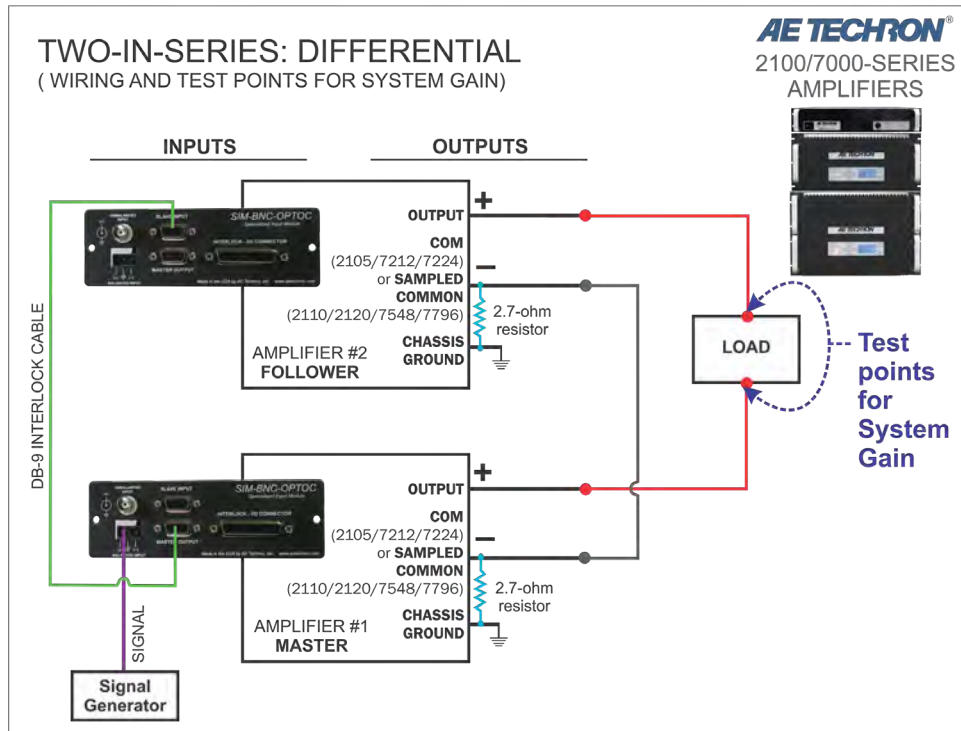

Figure 3.12 – Verifying System Gain
4. Apply a sine wave of 5 Vrms at 100 Hz at the Master amplifier input. Using a voltmeter, measure across the system load to verify an output from the system of approximately 200 Vrms. See **Figure 3.12**.